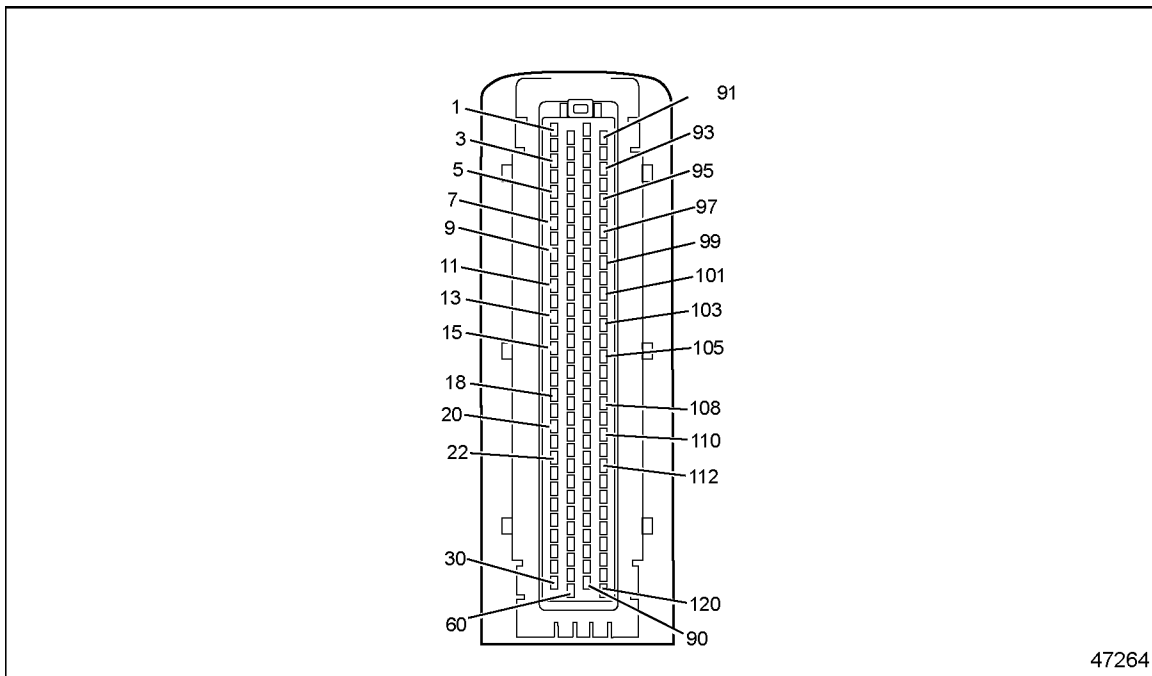

Figure 47-1 120-pin MCM Connector
- [a] If the voltage is less than 11.5 volts, repair the open between pin R of the 23-pin connector and pin 6 of the 120-pin MCM connector (see Figure 47-1). Refer to section 47.1.3.1.